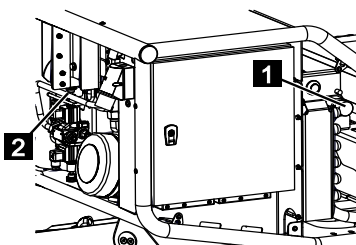

Fig. 201
3. Push in the valve [outrigger, crawler] (Fig.201/1) and lock it by turning it clockwise.
4. Screw the valve [LS] (Fig.201/2) in clockwise as far as it will go.